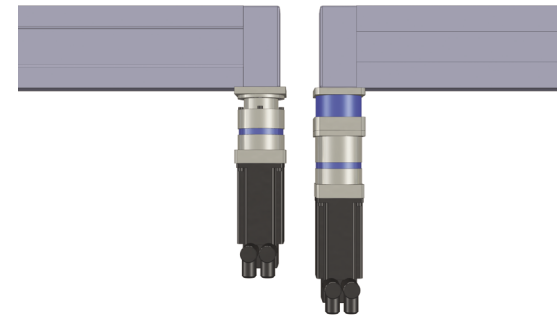

Figure 1: Hollow output inline gearbox (left) has a shorter overall length compared to a gearbox with coupling (right), saving space.
- Can the drive train be shortened? Using a gearbox that can directly connect to the driven component can shorten the overall length, saving space (figure 1).
- Eliminate components: using a hollow output gearbox eliminates the need for a coupling and increases system stiffness (figure 1).